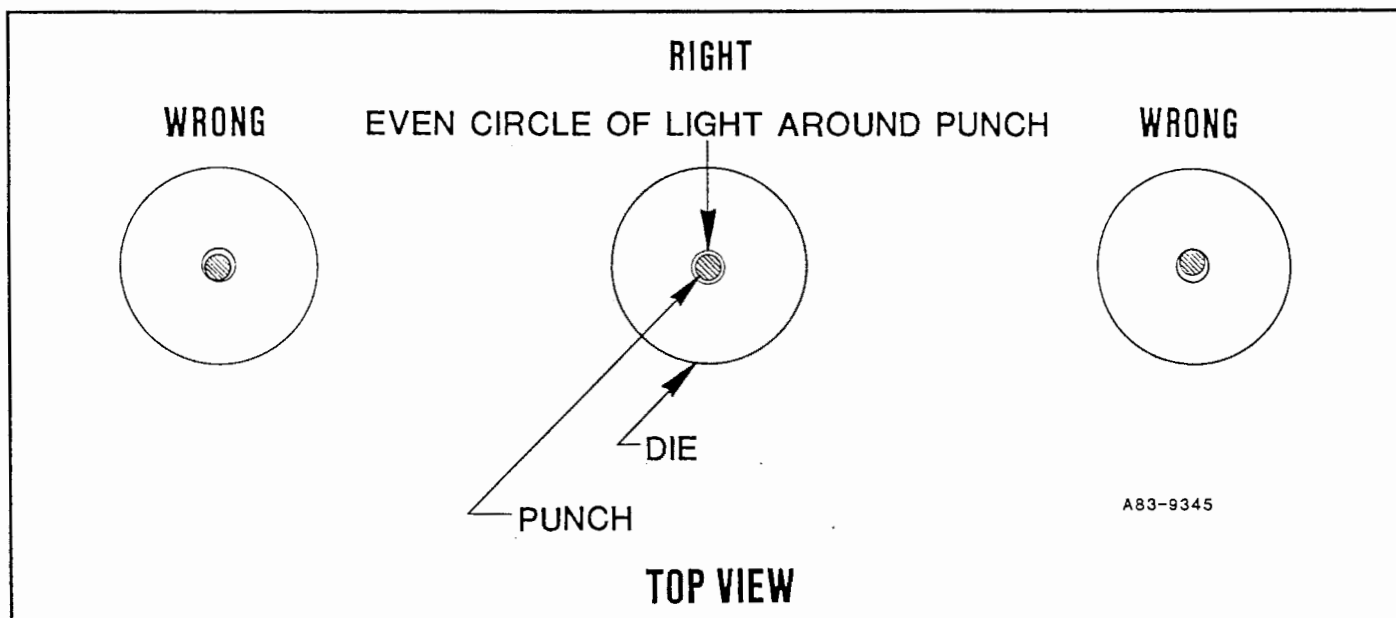

Figure 8.11 J
13. After the punch goes through the die, there should be a uniform circle of light around the punch as shown in Figure 8.11 J. Use the inspection mirror to check for light on the back-side of the punch. If there is a uniform circle of light around the punch, go to step 14. If there is not a uniform circle of light, align the tooling according to steps 4-5 & 13-33 in Section 8.11.5.